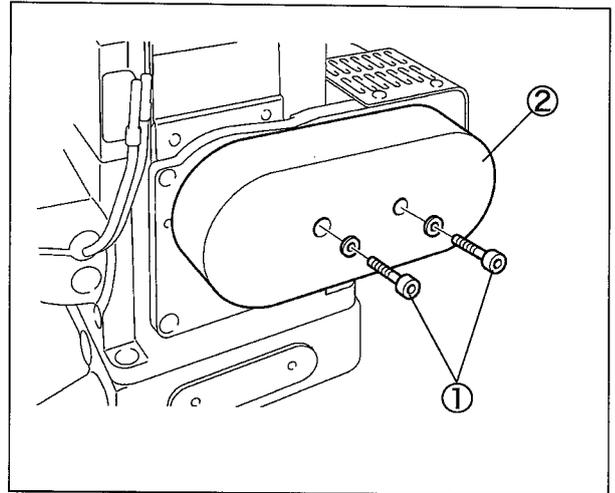

Fig. 54
1. Loosen the screws ① to remove the belt cover ②. (Fig. 54)
7. Reset the belt cover ②. (Fig. 54)